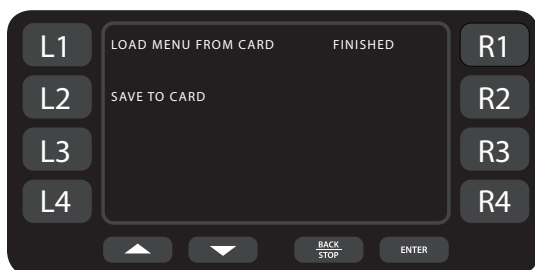

Figure 23: Loading...Finished
4. From the Load Menu screen, press the L1 soft key (Figure 23).
4. From the Load Menu screen, press the L2 soft key (Figure 23).